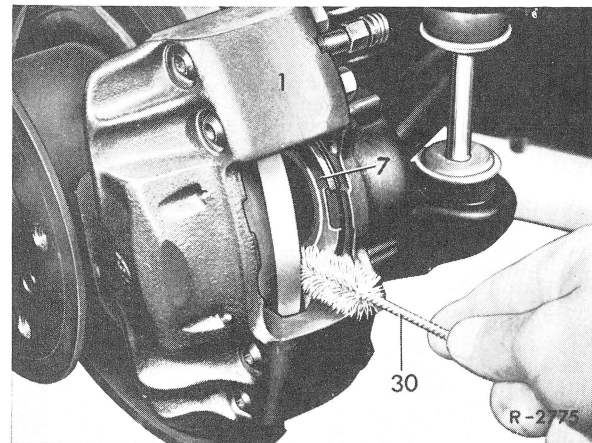

Fig. 9
7 Clean guide for brake shoe in brake caliper (1) with a cylindrical brush (30) (Fig. 9).